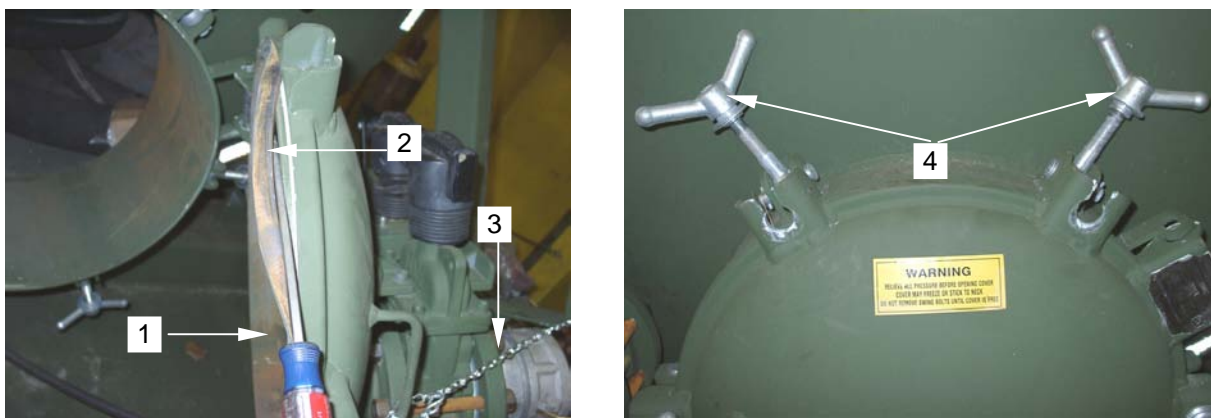

Figure 2. Replacing Gasket and Closing Manway
5. Rinse with fresh water and steam clean manway (**figure 2, item 1**).
6. Pry the gasket (**figure 2, item 2**) from the groove and remove it.
9. Unhook chain (**figure 2, item 3**) and close manway. Place swing bolt assemblies (**figure 2, item 4**) onto cover and tighten in a star pattern.